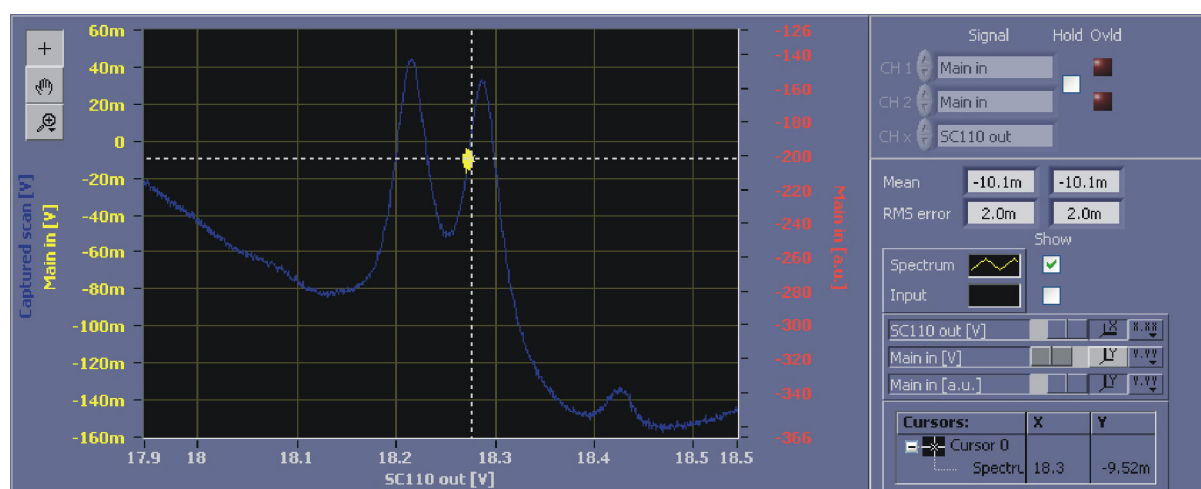

Figure 46 AutoLock display while the lock is active.
20. After some time the yellow trace disappears and a scatter plot is left which indicates both the input signal (y-axis) and the current output of the **PID 2** which in this case coincides with the scan (see Figure 46) on the x-axis. The calculated rms deviation from the setpoint value displayed in the right panel can be used to optimize the lock.